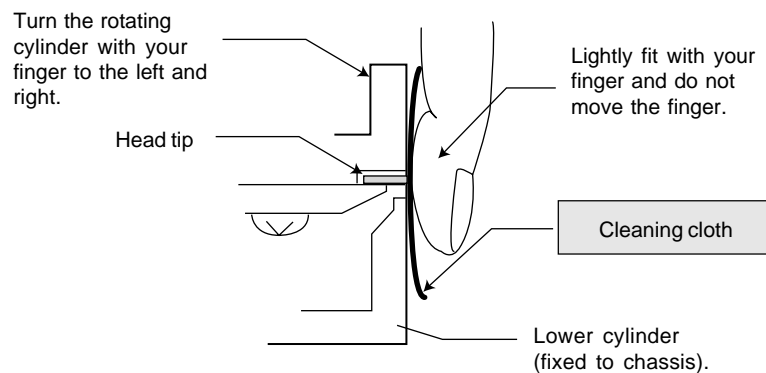

Fig. 2-2
### (1) Cleaning video heads (Fig. 2-2)